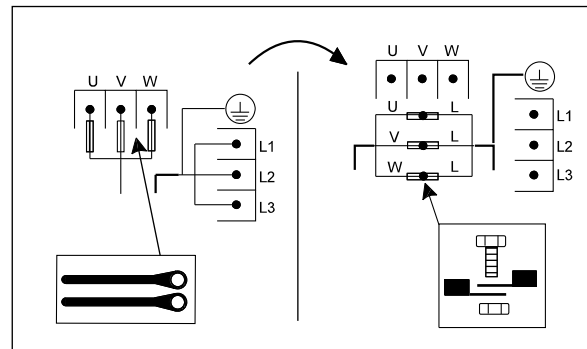

Fig. 29 How to switch an E-pump from normal operation to emergency operation
3. Connect the conductors as shown in fig. 29.